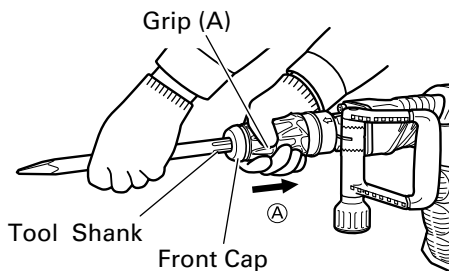
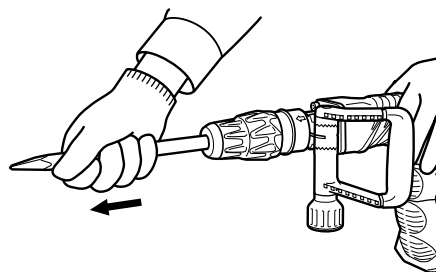

Fig. 2
Fig. 3
- (1) Clean the shank portion of the tool.
- (2) As shown in Fig. 2, pull grip (A) in the direction of ①, and insert the tool into a hole of the front cap.
- (3) Adjust the groove position while turning the tool, and furthermore insert it until it hits the end of the hole.
- (4) Return grip (A) to its original position, pull the tool to make sure it is locked completely. (Fig. 3)
As shown in Fig. 2, pull grip (A), and pull out the tool.